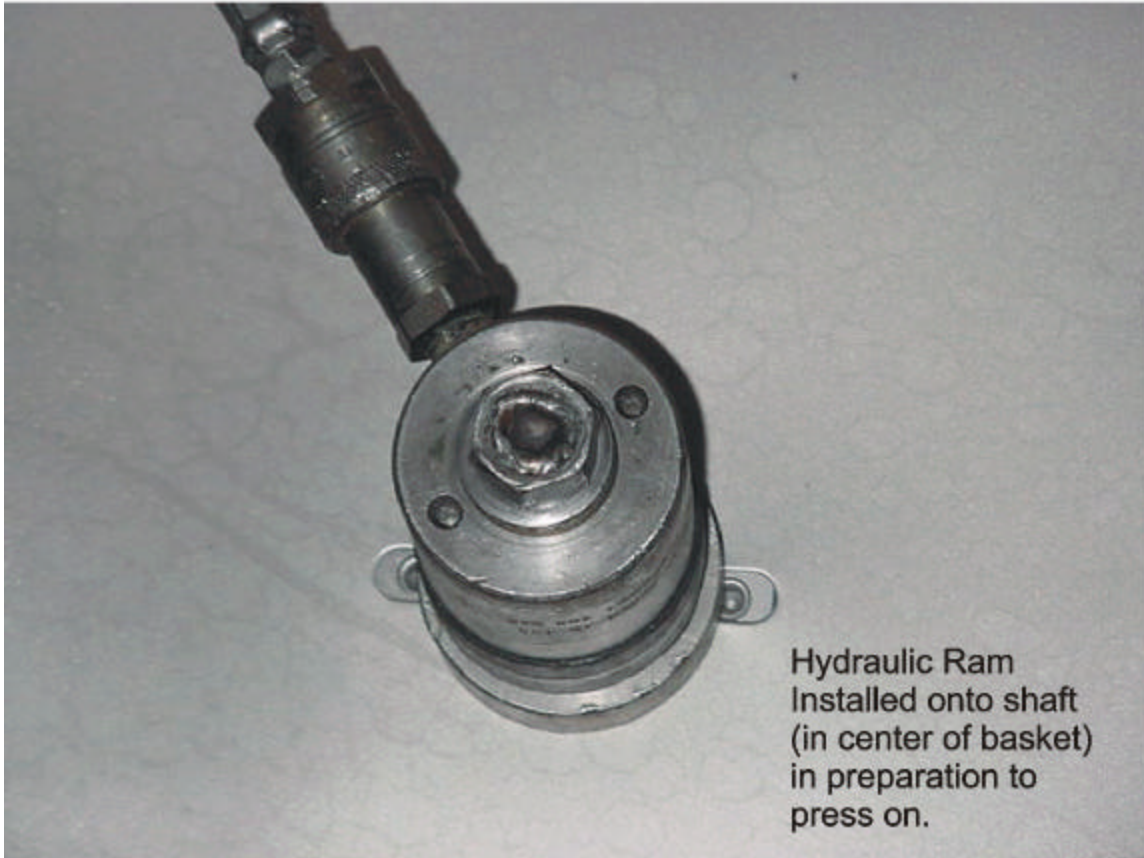

Figure 4
- 4) Thread the pressing fixture into the shaft. Figure 4.
- 5) Hand tighten bolt to the shaft. Figure 4.